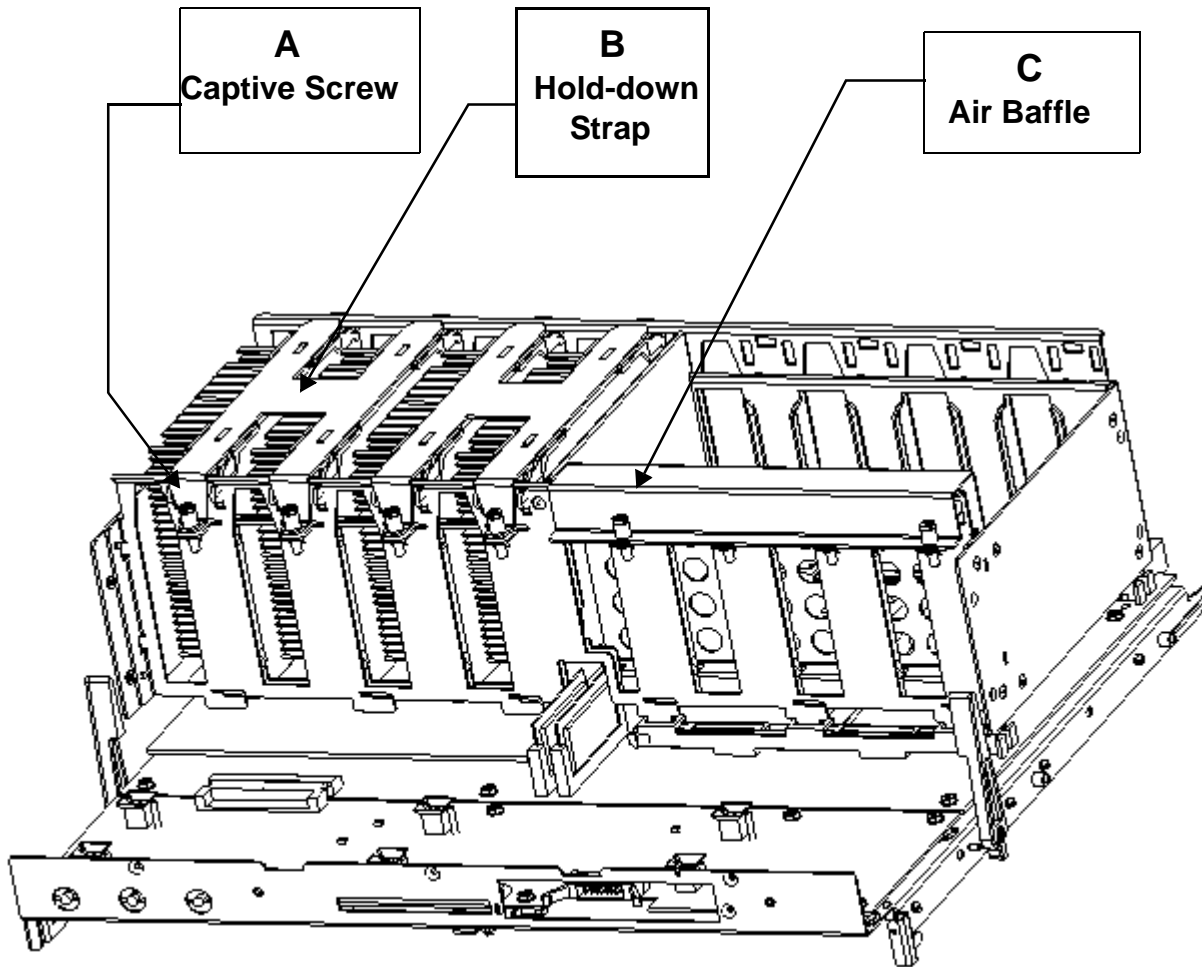

Figure 2-7: Processor Retention Mechanism
A processor/termination card pair is secured with a hold-down strap (B) that hooks into the back of the retention mechanism and is fastened at the front with two captive screws (A). (The retention strap is for a pair of processors or terminators). See Figure 2-7: Processor Retention Mechanism.